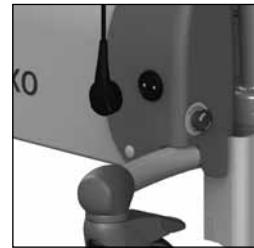

Figure 14 Charging point.
(See figure 14).
- Connect the charger to the Elexo XXL (See figure 14).